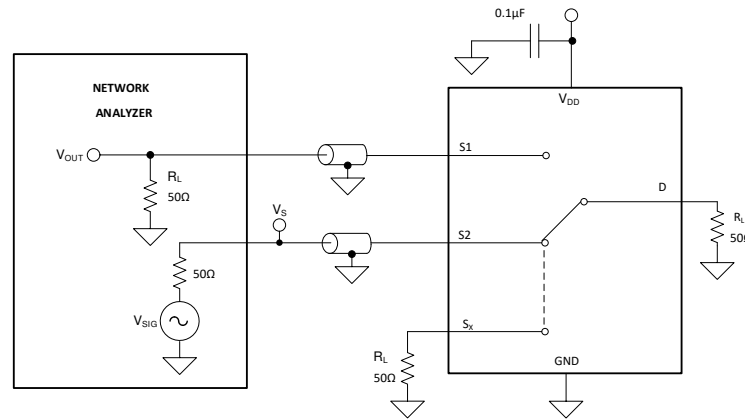

Figure 8-9. Channel-to-Channel Crosstalk Measurement Setup
Crosstalk is defined as the ratio of the signal at the drain pin (D) of a different channel, when a signal is applied at the source pin (S_x) of an on-channel. Figure 8-9 shows the setup used to measure, and the equation used to compute crosstalk.